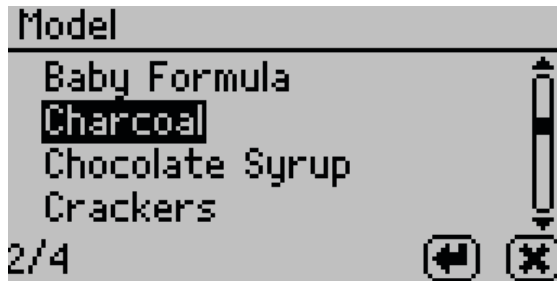

Figure 23 Moisture content model list
- Select the desired model (Figure 23).